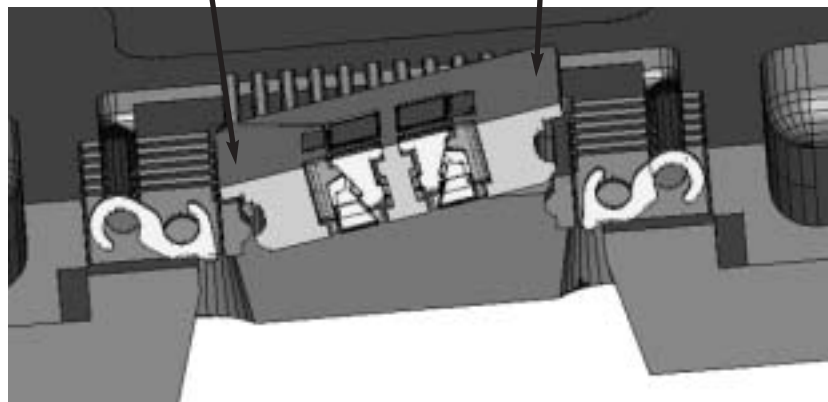

FIGURE 3
5. With a covered finger, push the opposite side of the insert into place; you will hear a "snap" sound when the insert is completely in the housing, **FIGURE 3**.